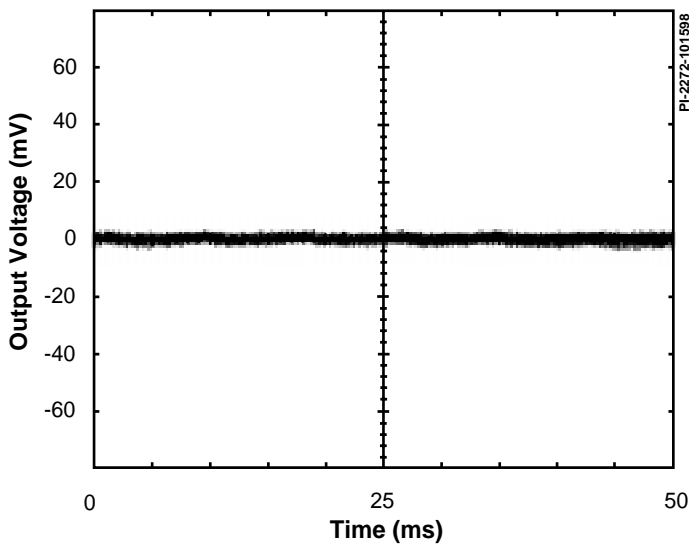
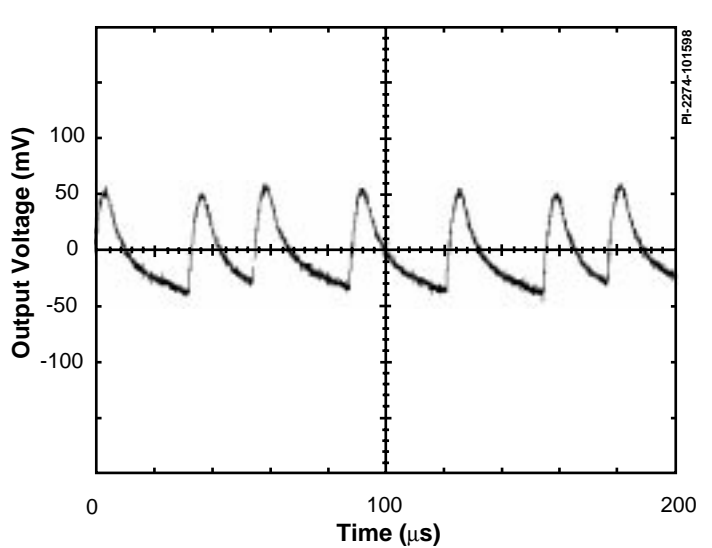

Figure 12. Line Frequency Ripple, 115 VAC Input, 3 W Output.
Figure 13. Switching Frequency Ripple, 115 VAC Input, 3 W Output.
**Output Ripple** - Line frequency ripple voltage is shown in Figure 12 for 115 VAC input and 3 W output. Switching frequency ripple voltage is shown in Figure 13 for the same test condition. In Figure 13, note the skipped pulses due to the *TinySwitch* ON/OFF control.